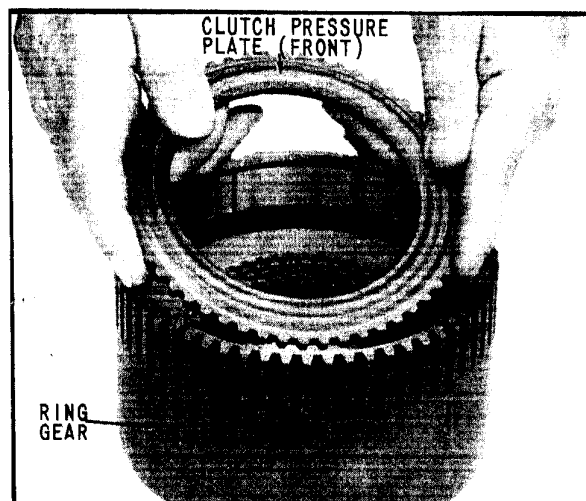

Fig. 36 Installing Clutch Pressure Plate (Front)
22. Install clutch pressure plate (front) with flat face down in contact with clutch plate, as shown in (Fig. 36).